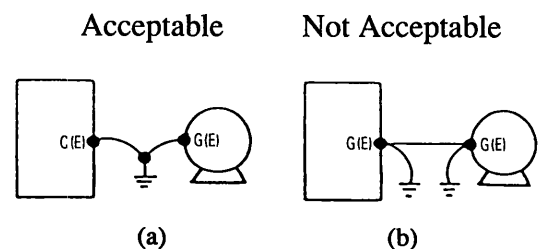

Fig 3.3 Grounding the Inverter and the Motor
- (d) When multiple inverters are used, ground them as shown in Fig. 3.2 (a), taking care not to form ground loops as shown in Fig. 3.2 (b). Also be careful not to form ground loops between the inverter and the motor, as shown in Fig. 3.3 (b).